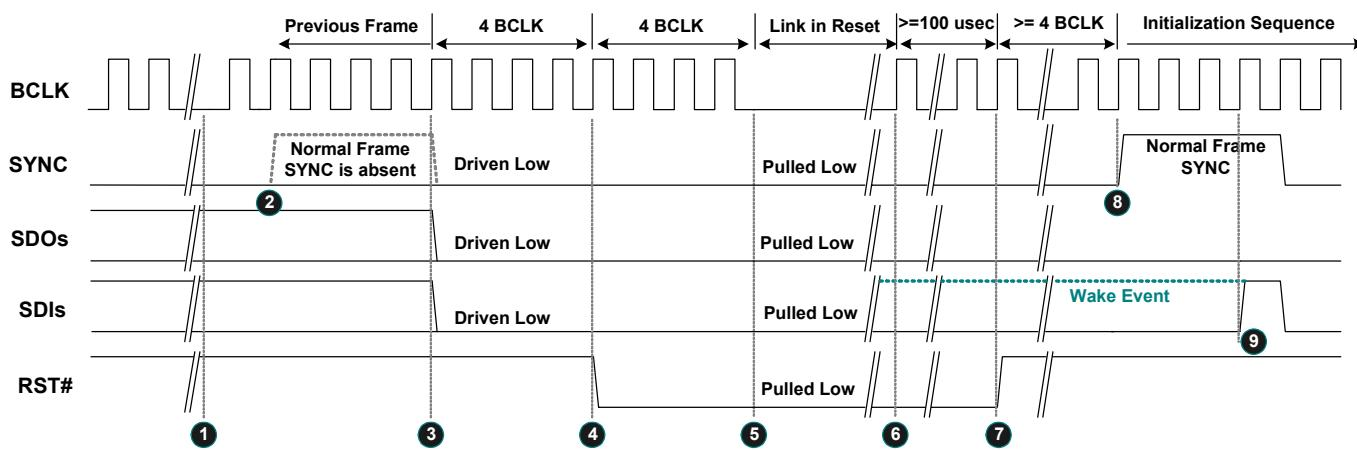

Figure 17. Link Reset Timing
3. Software initiates power management sequences. Figure 17, page 25, shows the ‘Link Reset’ timing including the ‘Enter’ sequence (❶~❽) and ‘Exit’ sequence (❾~❿)